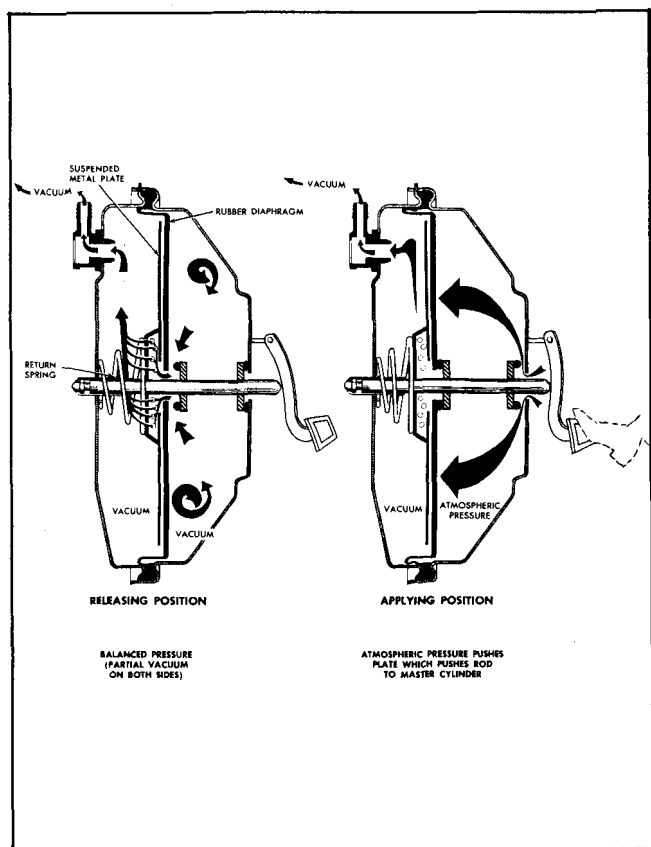

Fig. 5A-4 Removing Front Housing
5. Using a 14" crescent wrench or equivalent, twist the square channel tube **counterclockwise** enough to separate front housing from rear housing (Fig. 5A-4).